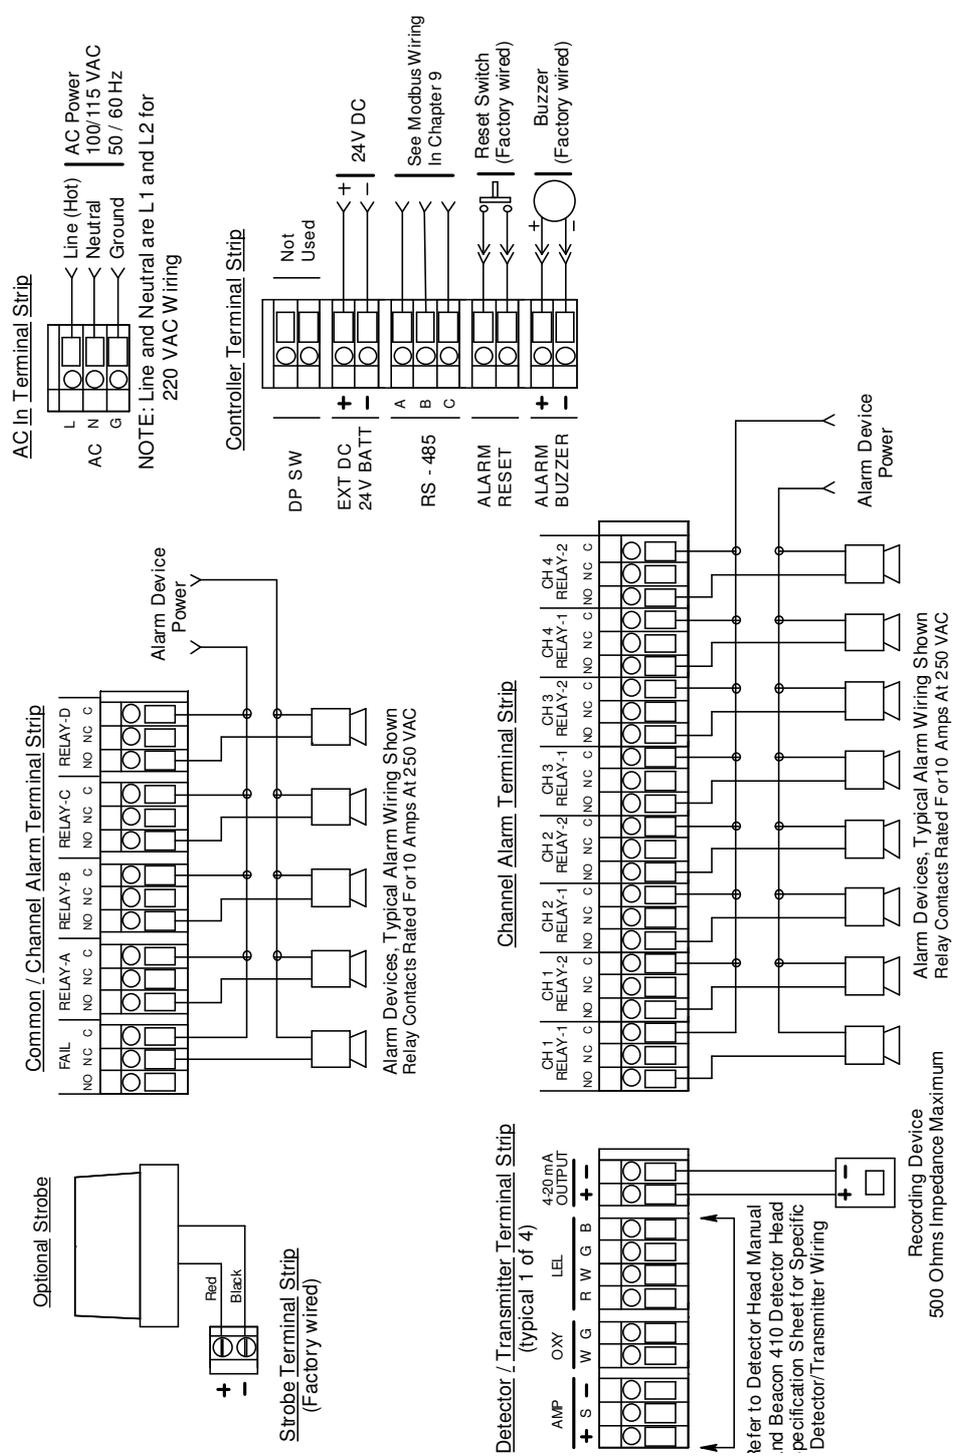

Figure 5: Beacon 410 Gas Monitor External Wiring Diagram
- This section describes procedures to connect the AC power source, DC power source, Modbus wiring (refer to "Wiring the GasScanner 4C in a Modbus System" on page 57), external alarms, recording devices, and detector heads. See Figure 5 on page 17 for a general diagram of all external wiring to the GasScanner 4C.